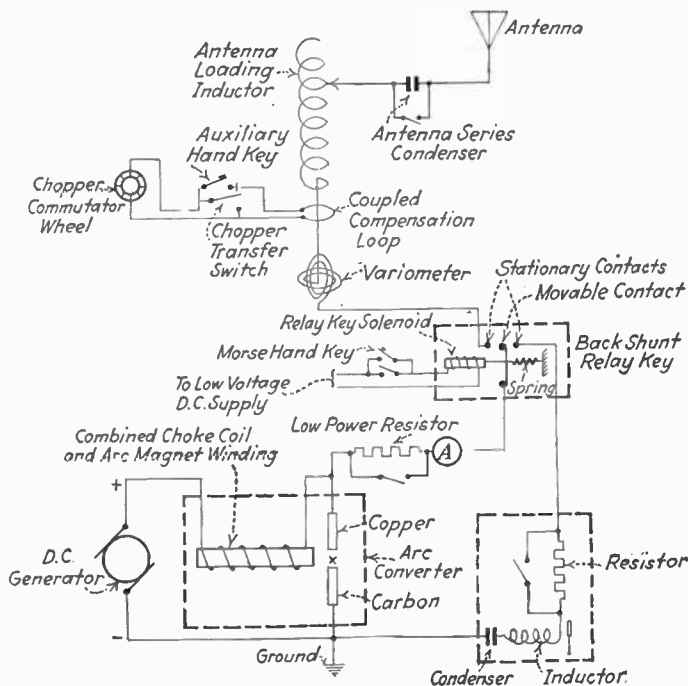

FIG. 10.—Wiring diagram "back-shunt" arc signalling system.
**NOTE.**—For a complete diagram of a modern arc-signalling system see Fig. 10.
**Ans.** Back-shunt relay; ignition key; chopper and compensating-loop systems. Figures 10, 11, 12 illustrate the above systems.